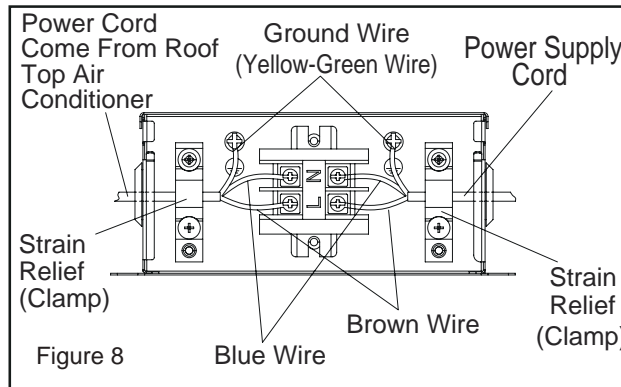

Figure 8
4. Connect the power cord to the brown, blue and ground wires found in the junction box with a terminal board. CAUTION Connect brown wire to brown wire, blue wire to blue wire and the ground wire to earth. (see Figure 8).
2. As shown in fig.8, the indoor unit has one set of control signal wires, with 4 wiring terminals in total.